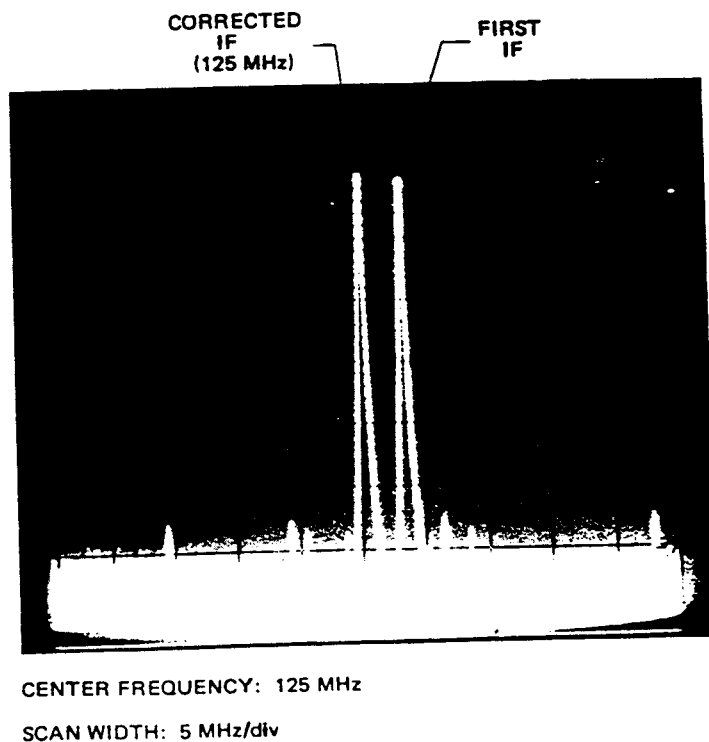

Figure 7-2. IF Signal.
4. On the counter press . When the converter finds the incoming signal, an IF is generated which is near 125 MHz at first, then shifts to exactly 125 MHz (see Figure 7-2). If the first IF is more than 5 MHz from 125 MHz, adjust A108R10 until the first IF (at an input frequency of 1 GHz) is $125 \text{ MHz} \pm 5 \text{ MHz}$.